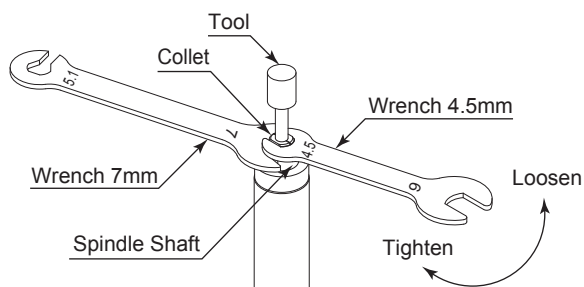

Fig. 3
- ① Remove the tool according to the section " 8. CHANGING THE TOOL " procedure above. (Fig. 3)